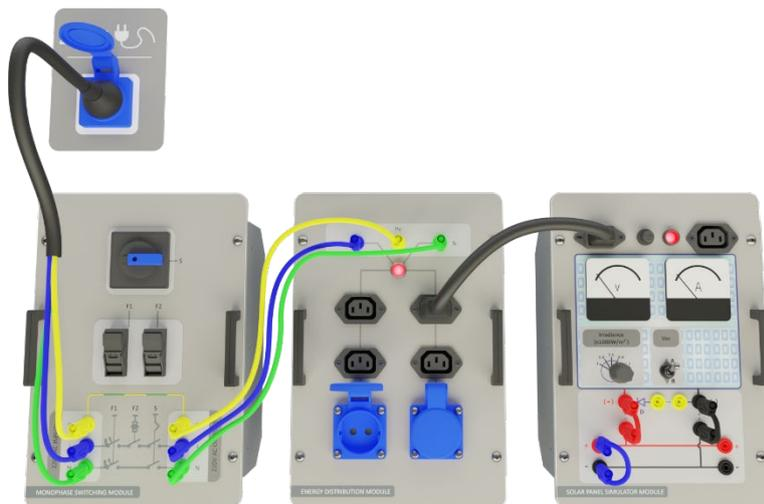

Figure-52. Installation Image of Solar Panel Examination of Solar Panel Simulator (Short-Circuit Current)
6. Make the connection shown in Figure-52 to measure the short-circuit current of the photovoltaic panel. The A-B selector has no effect on the short-circuit current (see Figure-52).